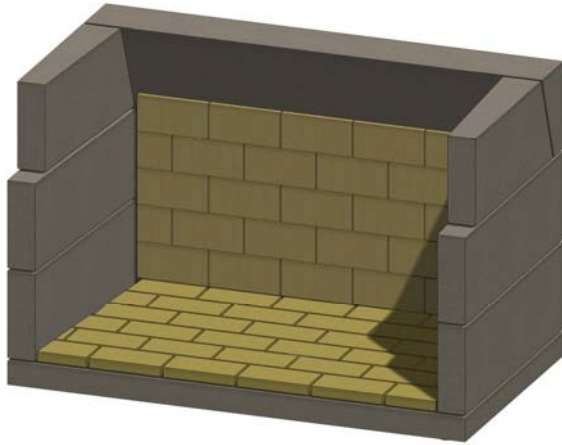

Figure 16. Back Wall Firebrick
I. Install firebrick on the back wall, with the brick laid on edge. See Figure 16.